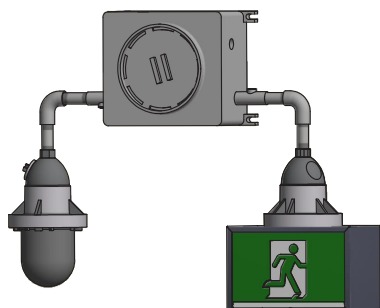

Figure 1
1. Orient the unit or wall or ceiling mount by turning the stems (figure 1).